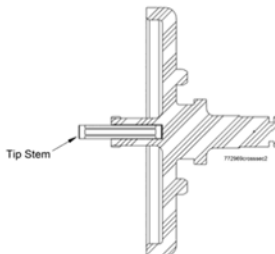

Figure 8-1 Piston Assembly
5. Ensure that the stem (47) of the piston (48) is still in place. See Figure 8-1.